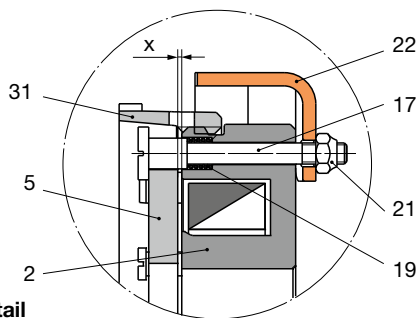

Fig. 3: Detail
When adjusting the locking nuts (21, Fig. 3), please observe that the restoring bolts (17) limit the armature disk (5) stroke in the direction of the brake.
The restoring bolts (17) may only be tightened using the locking nuts (21) so much that at least the adjustment dimension "x" acc. Table 1 and Fig. 3 remains between the armature disk (5) and the coil carrier (2). While doing this, please adjust both restoring bolts (17) evenly!